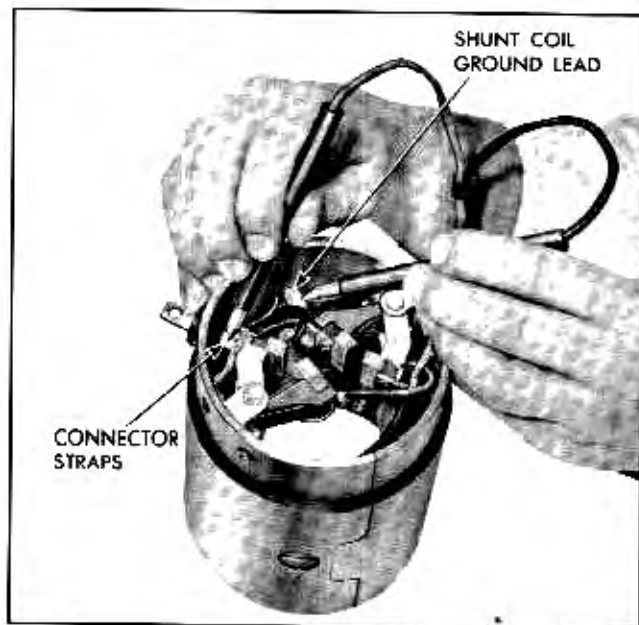

Fig. 12-40 Testing Shunt Coil for Open Circuit
e. Using a 110-volt test lamp, place one lead on each end of the shunt coil (Fig. 12-40). Disconnect the shunt coil ground before this check is made. If the lamp does not light, the shunt coil is open and will require replacement.